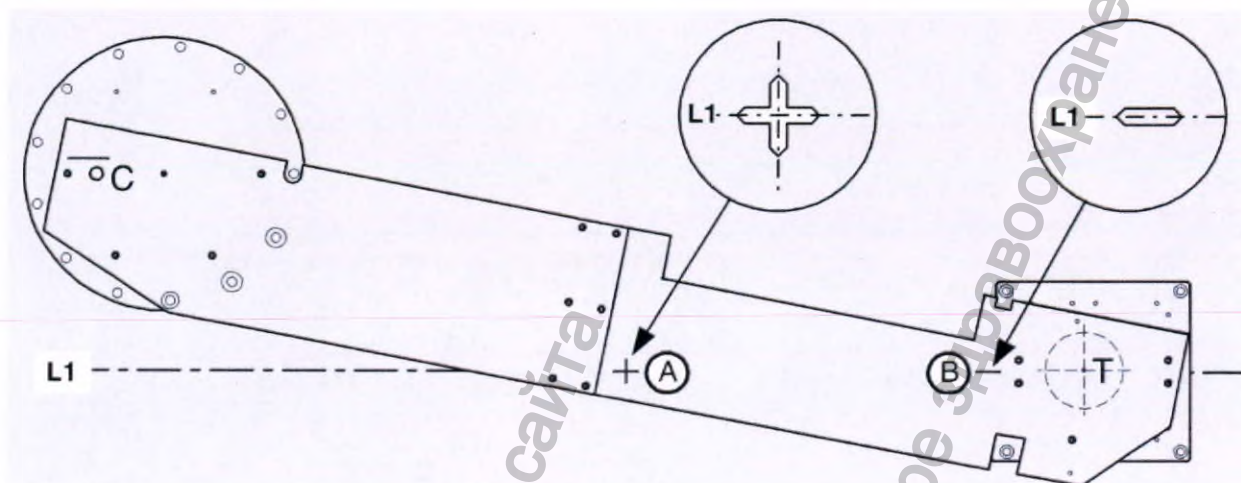

Fig. 5: Aligning the installation plates
A cross slot Fig. 5 (A) and a long slot Fig. 5 (B) are present in the installation gauge to align the mounting plates. Align the two mounting plates with respect to the marks on the floor: